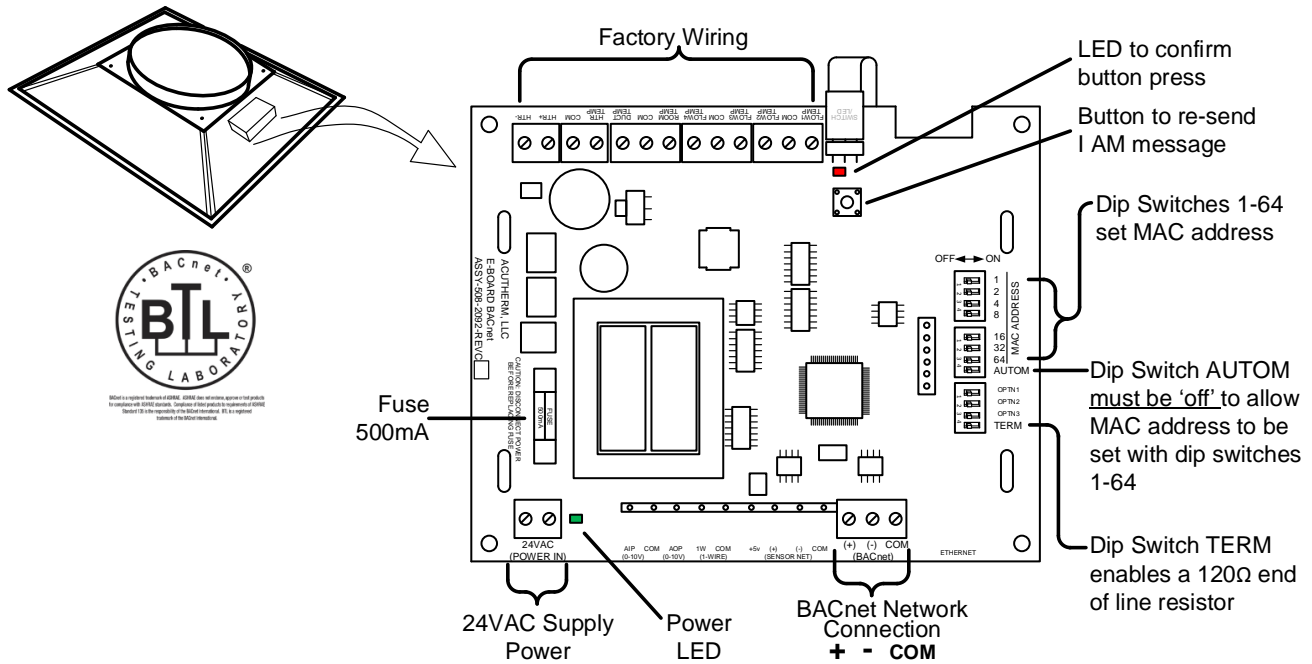

Fig. 7 Wiring Diagram
9. Check that 24⁺³/₋₁VAC is supplied to the diffuser across the terminals labeled 24VAC (POWER IN) (see Fig. 7 Wiring Diagram).
15. If there are no limiting flow stops or overrides and if the heater is wrapped correctly, measure the voltage supplied to the heater. Remove the controller cover and measure the voltage across the terminals marked HTR and HTR (see Factory Wiring on Fig. 7 Wiring Diagram). If the voltage is not according to Fig. 5 Troubleshooting, complete EF-B Electrical below before contacting Acutherm.
16. A green LED near the 24VAC Supply Power terminals should be lit indicating good supply voltage (see Fig. 7 Wiring Diagram).
17. Check the fuse near the 24VAC Supply Power terminals (see Fig. 7 Wiring Diagram).
- ii. Remove the wires to each sensor (ROOM TEMP, DUCT TEMP, and FLOW1-4 TEMP) from the terminals (see Fig. 7 Wiring Diagram).